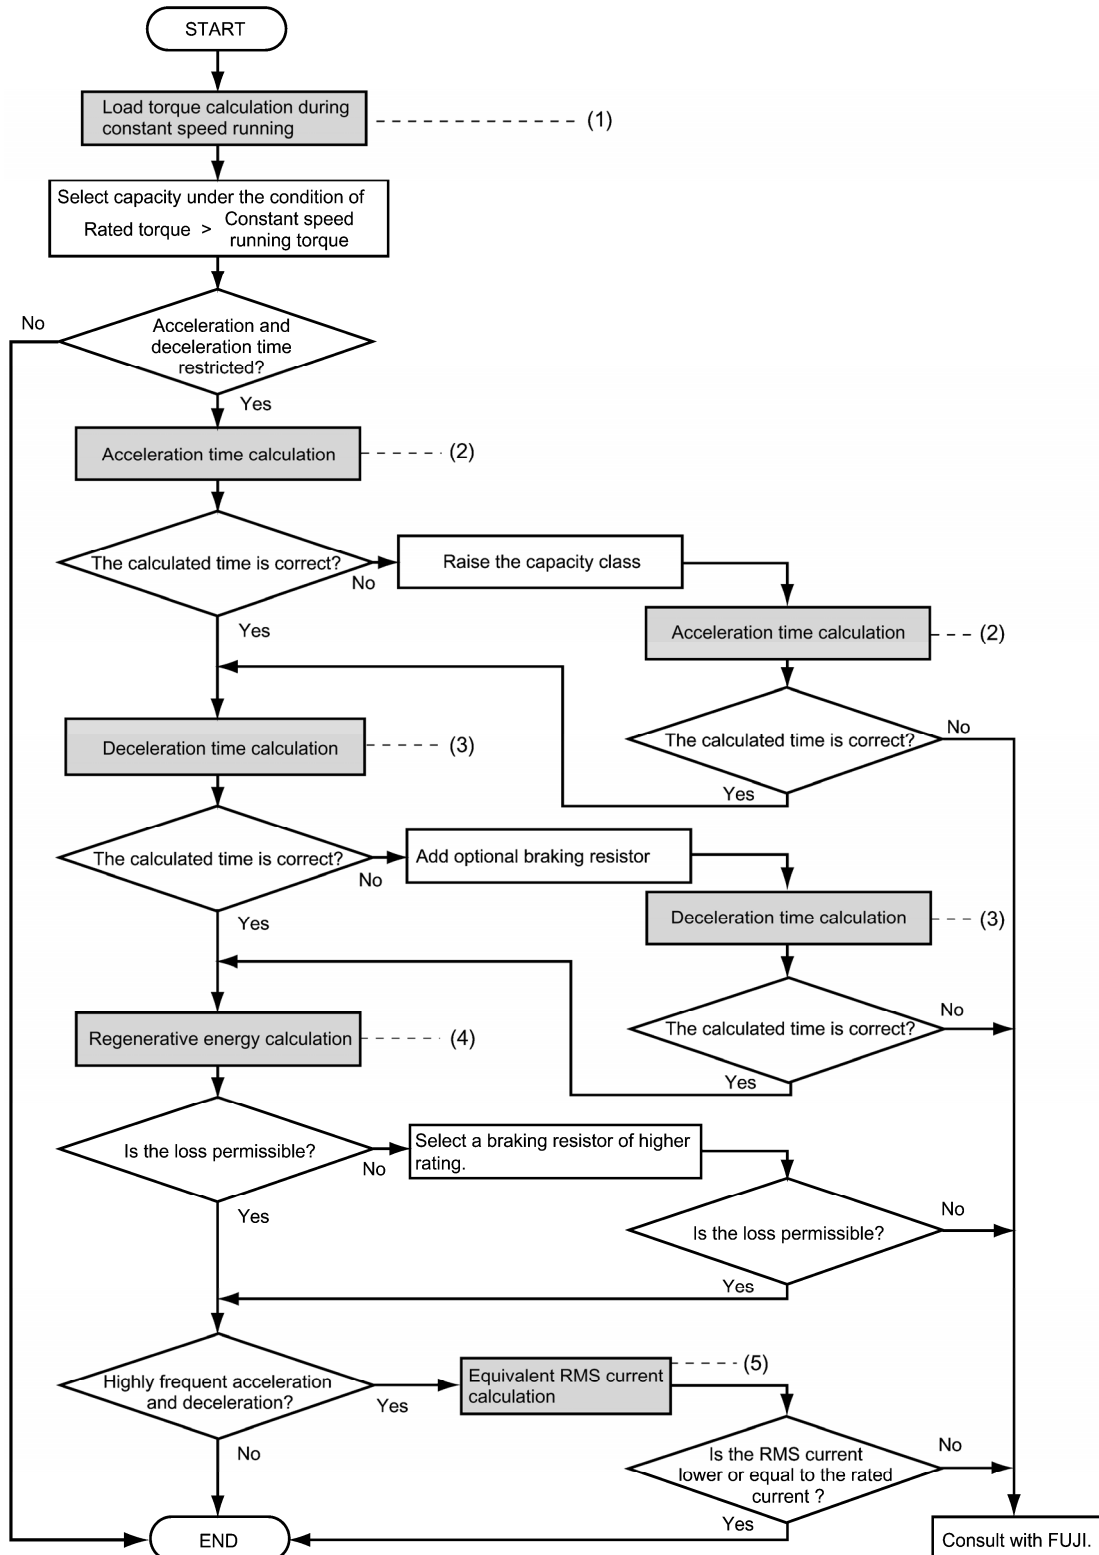

Figure 10.1-3 Selection Procedure
Figure 10.1-3 shows the general selection procedure for optimal inverters. Items numbered (1) through (5) are described on the following pages.